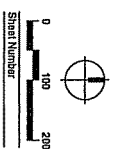

FIGURE 2
The facility is within ¼ of a mile of a proposed bus route and new bus stops on Eastpark Blvd. Madison Metro has preliminarily proposed two bus stops on Eastpark across from the new UW Health East facility and two bus stops in the vicinity of the Eastpark Boulevard/North Biltmore intersection. (**Figure 2**)
An internal path network is established at the American Family Center. Also, American Parkway and Eastpark Boulevard are improved with on-street bike lanes. **Figure 2** shows the planned on-site bicycle improvements for the MRH, and several measures to promote bicycling are provided below:
- b. On-site, convenient, secure, and safe bicycle parking is a critical element of a TDM, and **Figure 2** illustrates proposed bicycle parking for the MRH totaling 15 bicycle parking spaces. 4 of these spaces will be provided near the employee entry and provide covered bike parking.
The site plan in **Figure 2** shows the location and access routes to the proposed transit stops, the location of the reserved car pool spaces, the location of the covered bike parking, and access to the new facility for pedestrians and bicyclists. Promotional material on transit service available to the facility will be posted in the employee lunch room and lobby of the hospital.